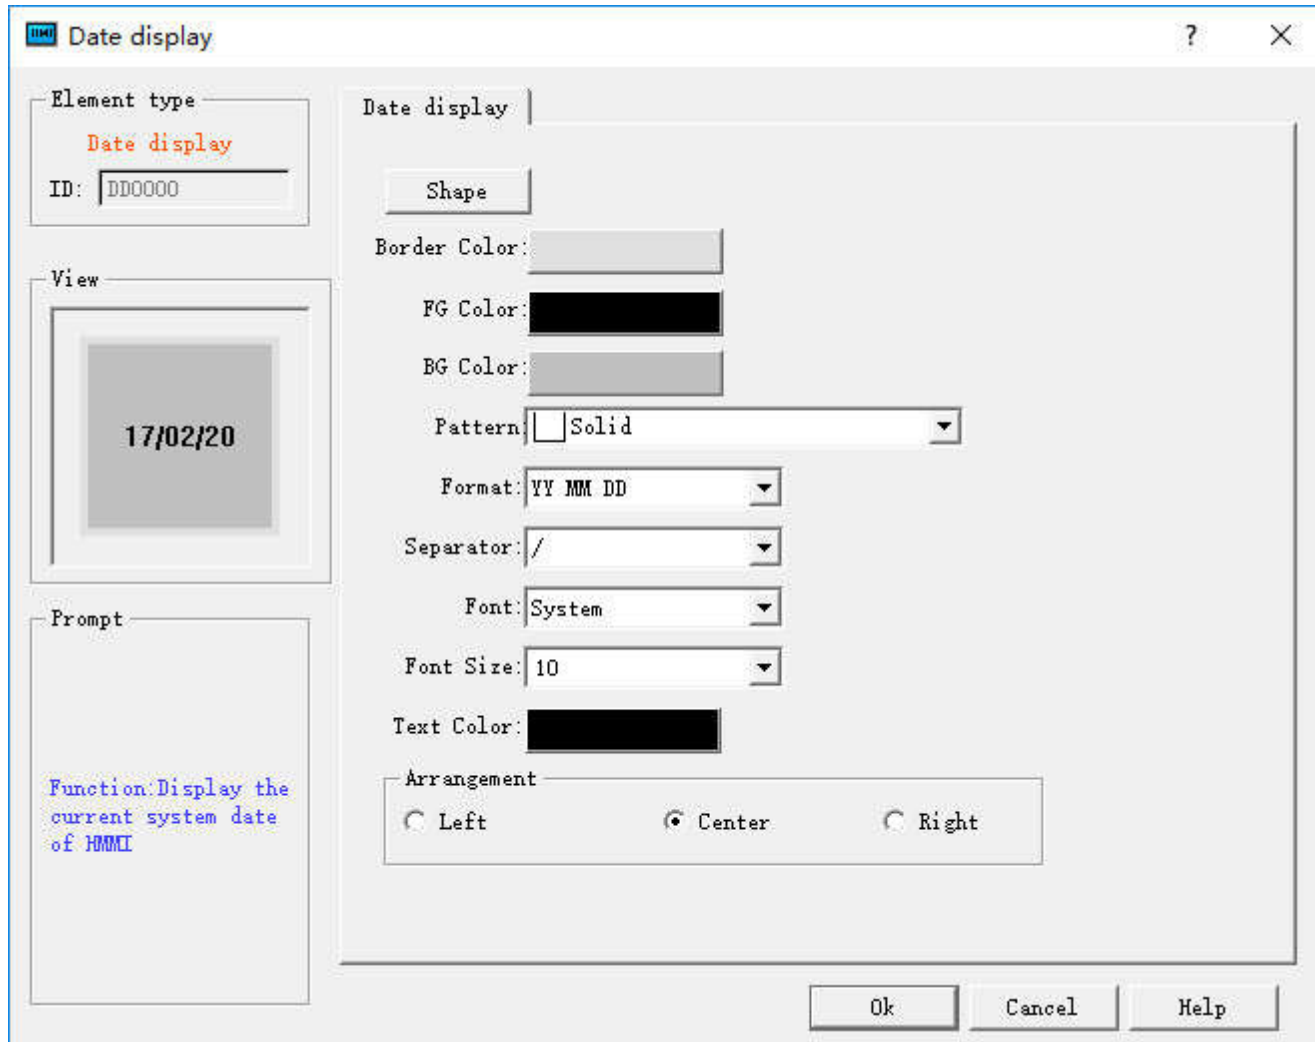

Figure 4-102 Date Display dialog box
1. Select the Bar Chart icon  in the toolbar or the Tools menu. Then it appears a dialog box shown in Figure 4-102.
The control of Date Display is mainly used to display the system date. Click in the button icon  in the toolbar, then it will appear a dialog box as shown in Figure 4-102: